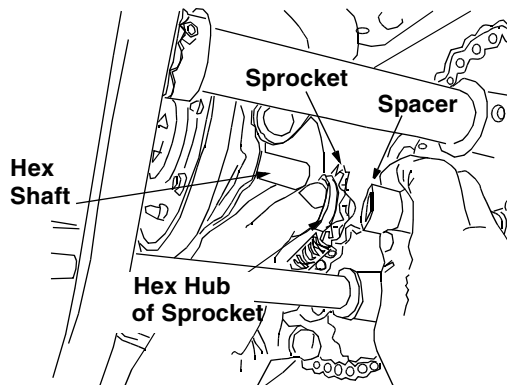

Figure 35
- Insert the hex shaft through the sprocket and the spacer. See Figure 35. Make certain that the chain engages both the large and the small sprocket.
NOTE: If the sprocket fell from the snow thrower while removing the hex shaft, place the sprocket on the hex shaft. Position the hex hub of the sprocket toward the friction wheel when sliding the sprocket on to the hex shaft. See Figure 35